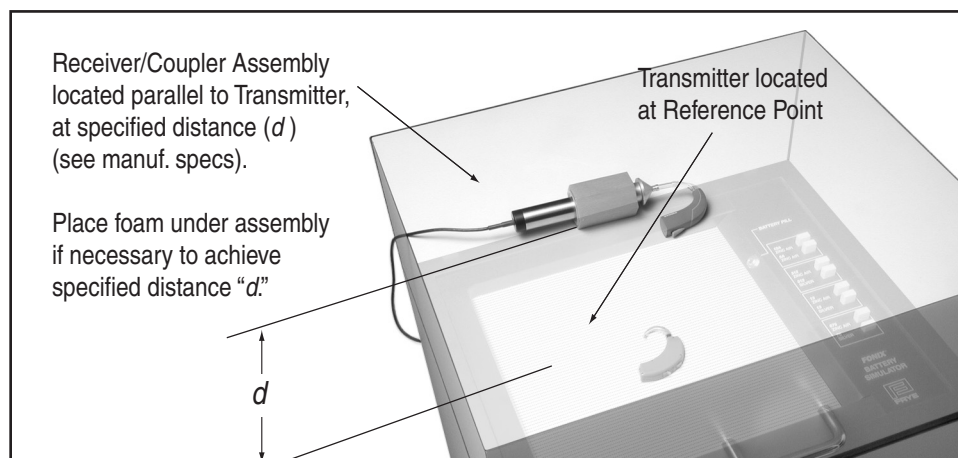

Figure 3.3.7—Testing Wireless CROS Hearing Aids
A CROS (Contra-lateral Routing of Signal) aid consists of a transmitter and a receiver so that sound received on one side of the head can be transmitted to the other side without a wire connection. You can test these units in the test chamber of the FONIX 7000 Test System. See Figure 3.3.7.
2. The two sides must be directly parallel as illustrated (See Figure 3.3.7).